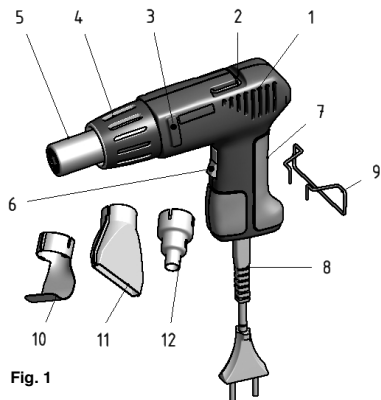

Fig. 1
Legend (Fig. 1)
2. Use the switch (Item 6 Fig. 1) to activate the device. You can operate the device with two different temperature settings. Simply select the matching switch setting I or II to do so. You can adjust the temperature optimally to the work task and to the materials.
The housing has small elevations (Item 3 Fig. 1) upon which the gun can be set down. These elevations make sure that the air jet is always directed upwards. Please note that when using particular attachment nozzles, there may be contact between the nozzle and the depositing surface! This presents a risk of burning and scorching!